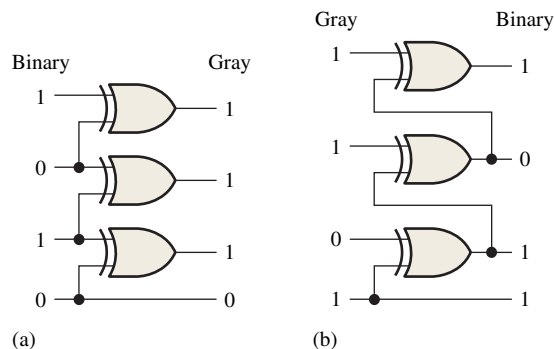

FIGURE 6-42
- 0101₂ is 0111 Gray. See Figure 6-42(a).
- 1011 Gray is 1101₂. See Figure 6-42(b).